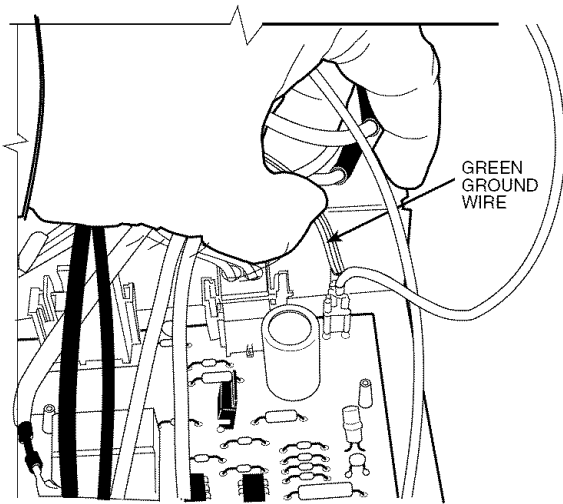

Fig. 7 — Ground Wire Connection
9. Attach the green ground wire from terminal 1 of the relay assembly (with piggy back male terminal) to the green ground wire attached to the PE terminal on corner of the PCB. Attach both wires back on to the PE terminal on corner of the PCB. See Fig 7.